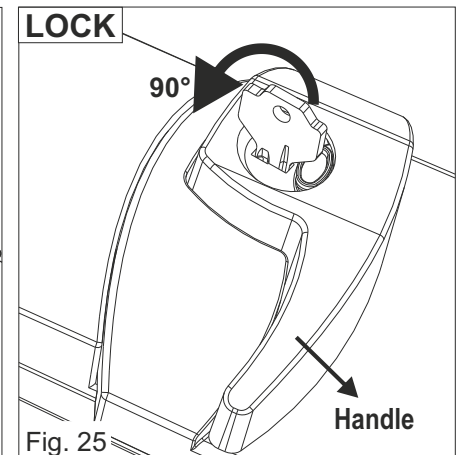

Fig. 25
- 2) Turn the key about 90° counter-clockwise (Fig. 25)